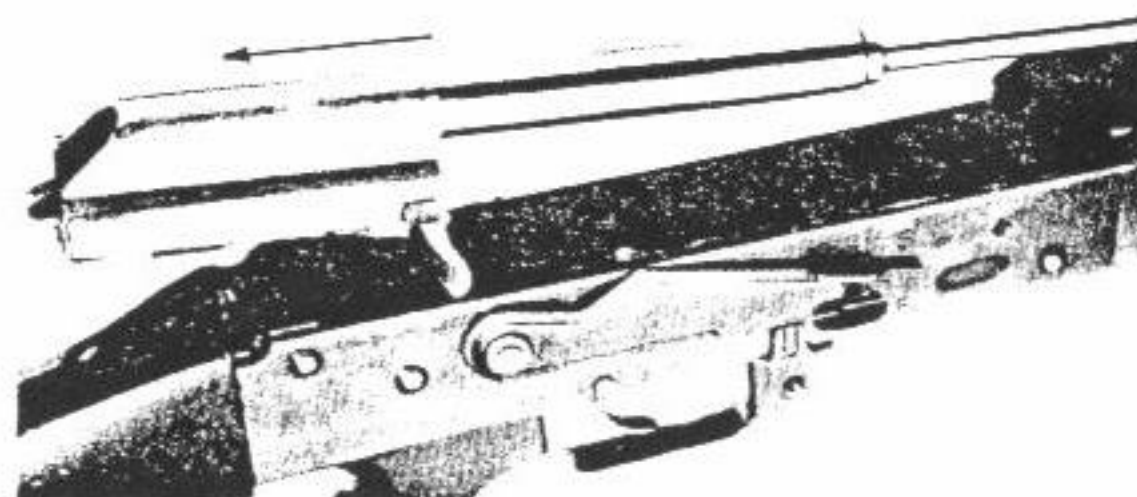

Figure 14
5. Place the safety in the "Off Safe" position and draw the bolt carrier assembly completely to the rear and out of the receiver. (See Fig. 14.)